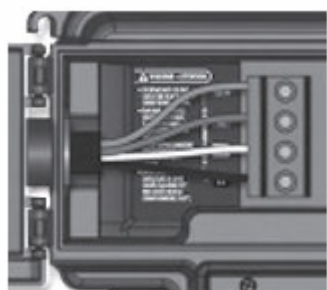

Figure 2
3. Unplug or disconnect power to the spa and remove the wiring or power cord from the power input terminals (figure 2).